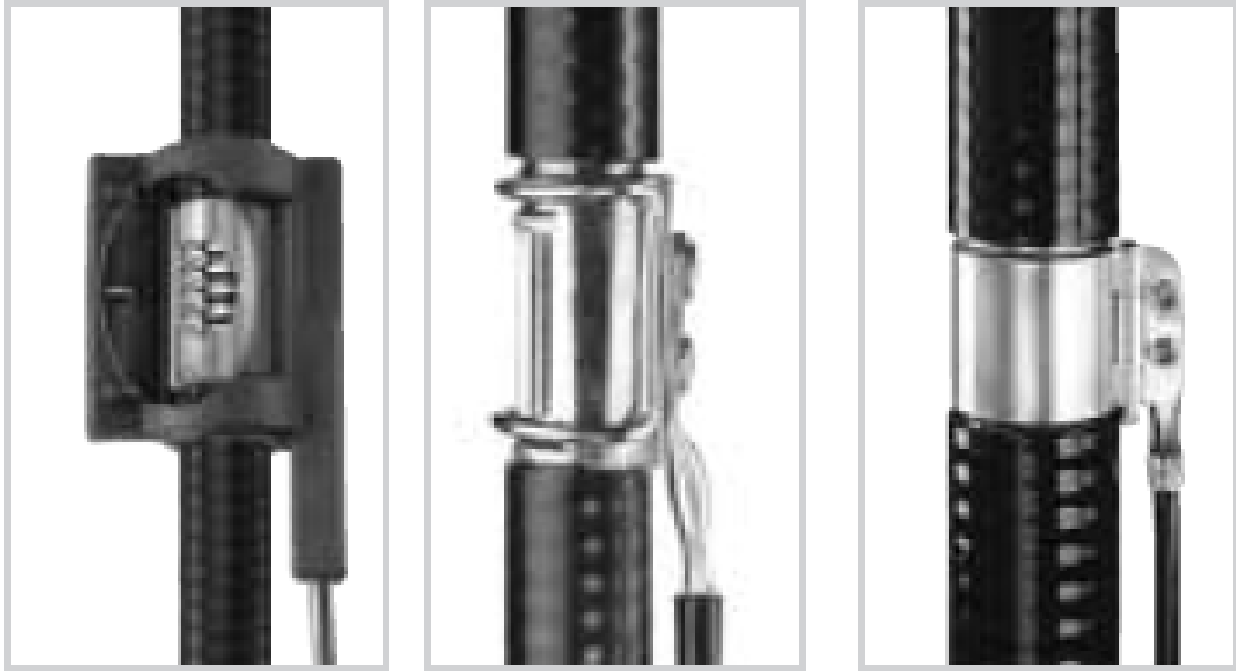

Figure 6 – Heliax Ground Kits
- b. All coax grounding will be with a manufacturer approved ground kit. See figure 6 below.